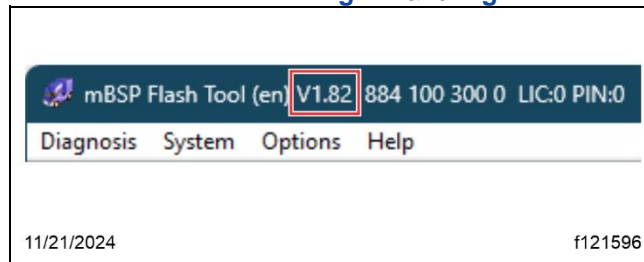

Fig. 20, mBSP Flash Tool Software Version
- An mBSP flash tool software version v1.90 (or later), as shown in **Fig. 20**, is required to perform this ABS ECU software update procedure.